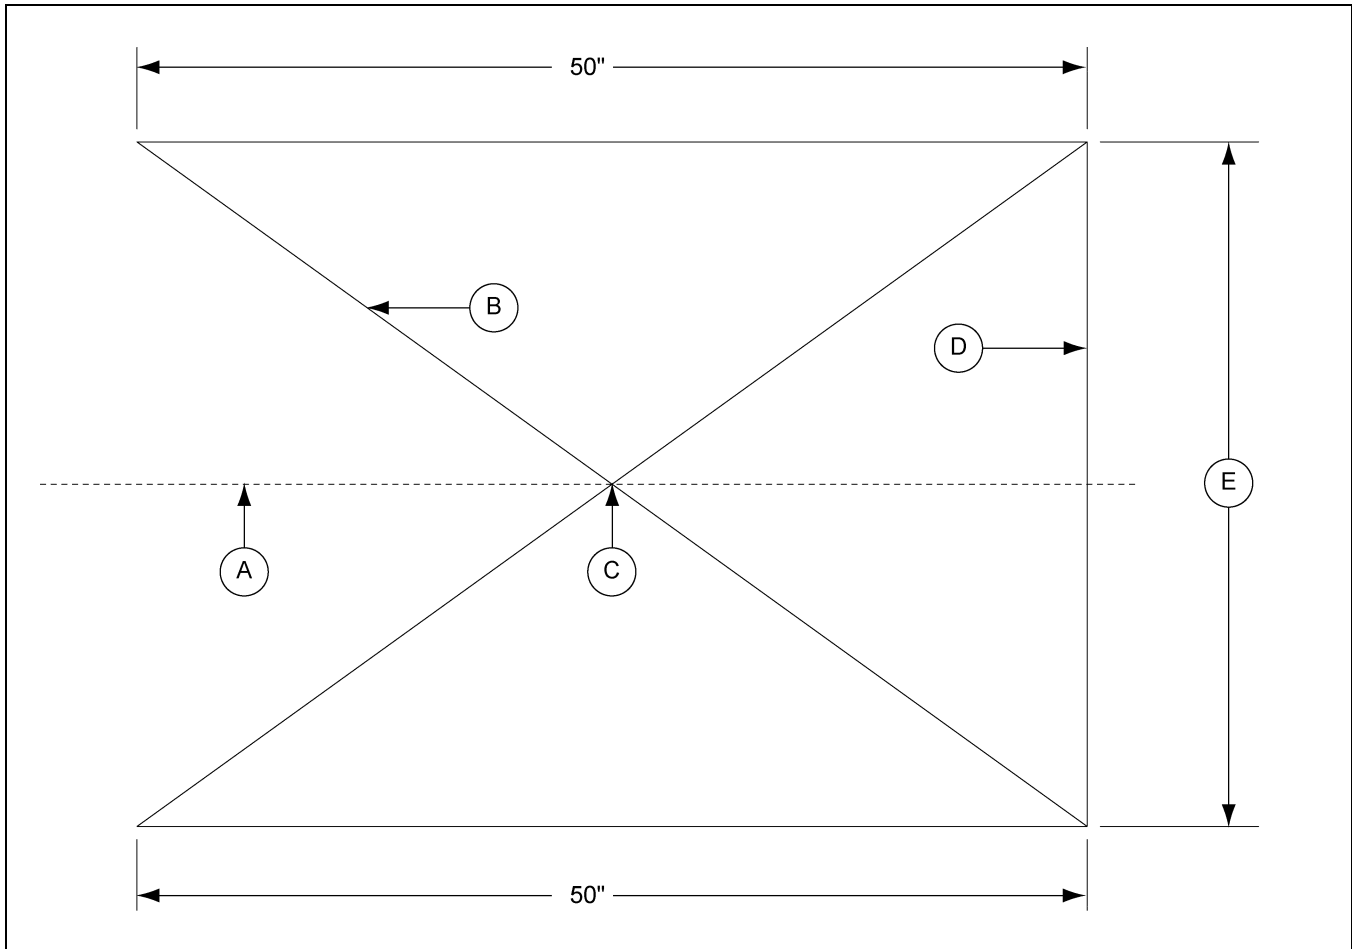

Figure 6C
- To check for the accuracy of the cut made, measure lengthwise 50" from each edge of the belt. Using a straight edge, draw a line diagonally across the belt. This should be done from the 50" point to the end corner on the opposite side of the belt. Do the same procedure in reverse to form an "X". The intersection point of the two (2) lines of the "X" should be in line with the centerline of the belt. (See Figure 6C.)